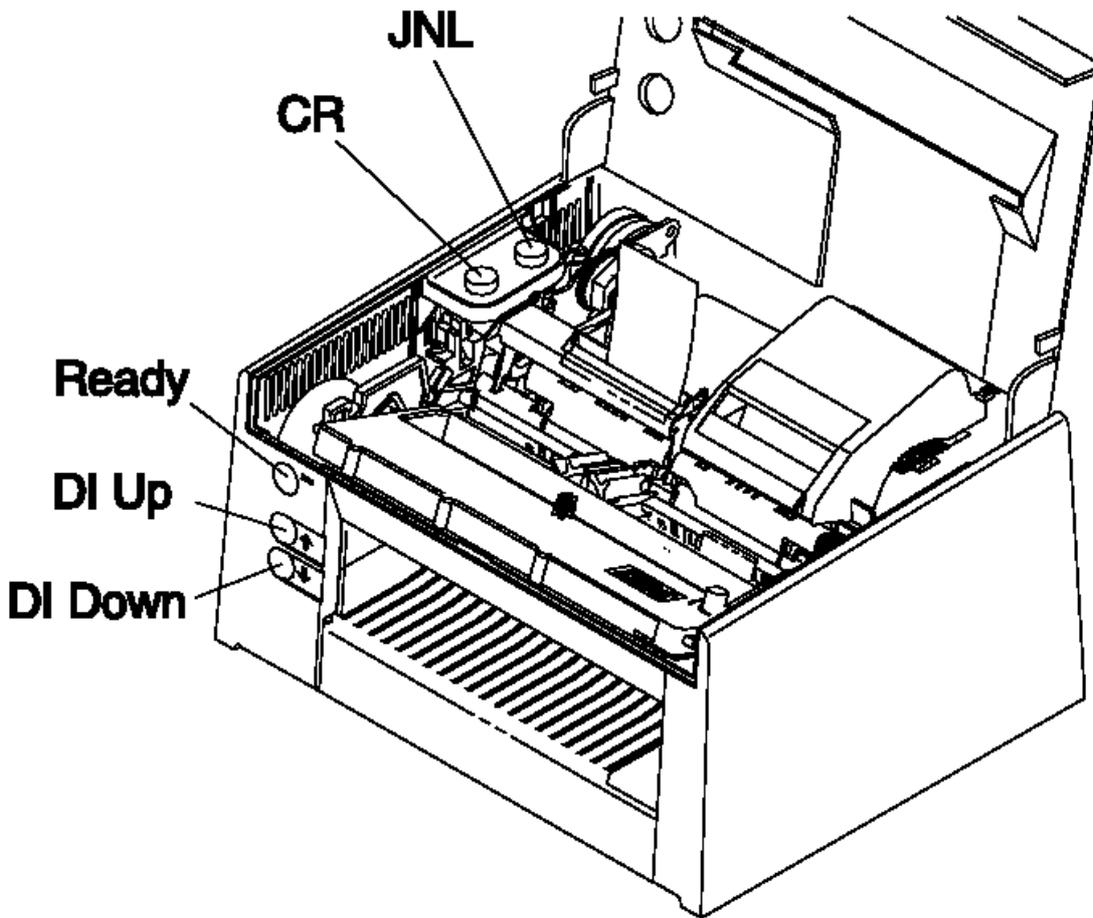

Figure 6-25. Printer Buttons
- Take an 8 1/2 x 11 sheet of paper and run it back and forth through the DI station using the DI up button and the DI down button. See Figure 6-25.